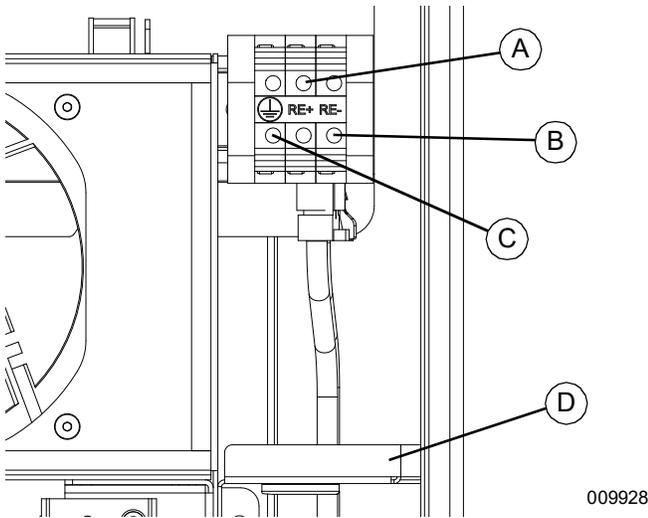

Figure 4-9. REbus Wiring
1. See Figure 4-9. Install REbus conductors to their terminal blocks: RE+ to red (A), RE- to blue (B).
2. Install equipment grounding conductor to green terminal block (C).
3. If required, route field wiring conductors through the grommet wiring chase baffle (D).